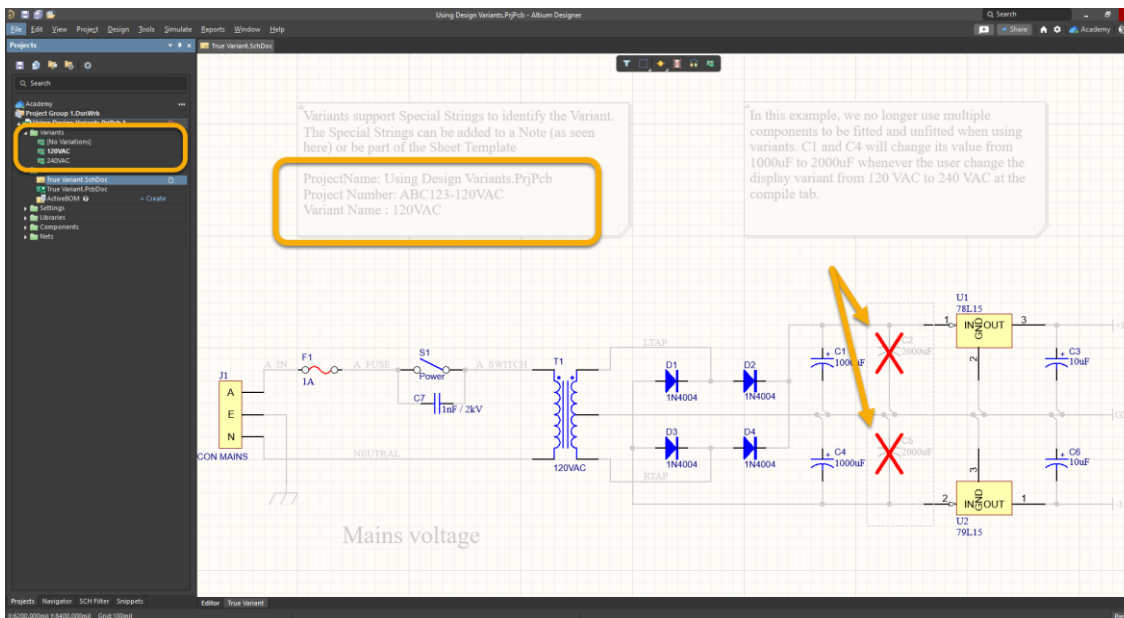

Figure 7. Selecting the Variant Menu
19. From the *Projects* panel, you will find a *Variants* folder as shown in Figure 7.